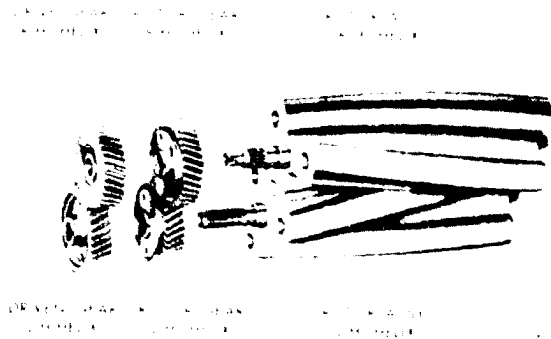

Figure 11D-12. Upper and Lower Rotors and Gears
The lobes on the upper blower rotor and the teeth on its gear form a right hand helix while the lobes and teeth of the lower blower rotor and gear form a left hand helix. Therefore, a rotor with a right hand helix lobe must be used with a gear having a right hand helix teeth and vice versa (see Figure 11D-12).
A. Support one of the rotor assemblies on wood blocks on the bed of an arbor press as shown in Figure 11D-14 on page 11D-10.